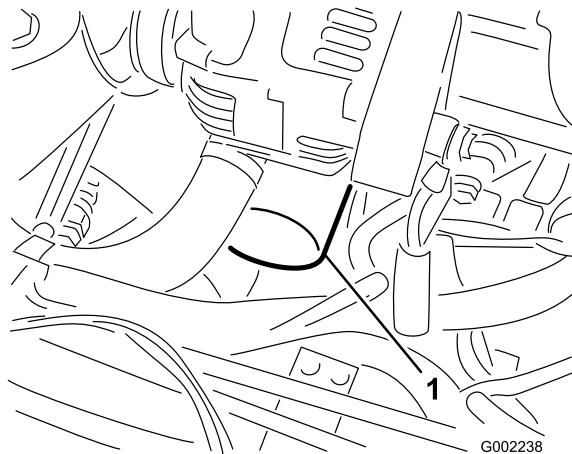

Figure 42
7. Remove the old oil filter (Figure 42).
contacts the filter adapter, then tighten the filter an additional 1/2 turn (Figure 42).